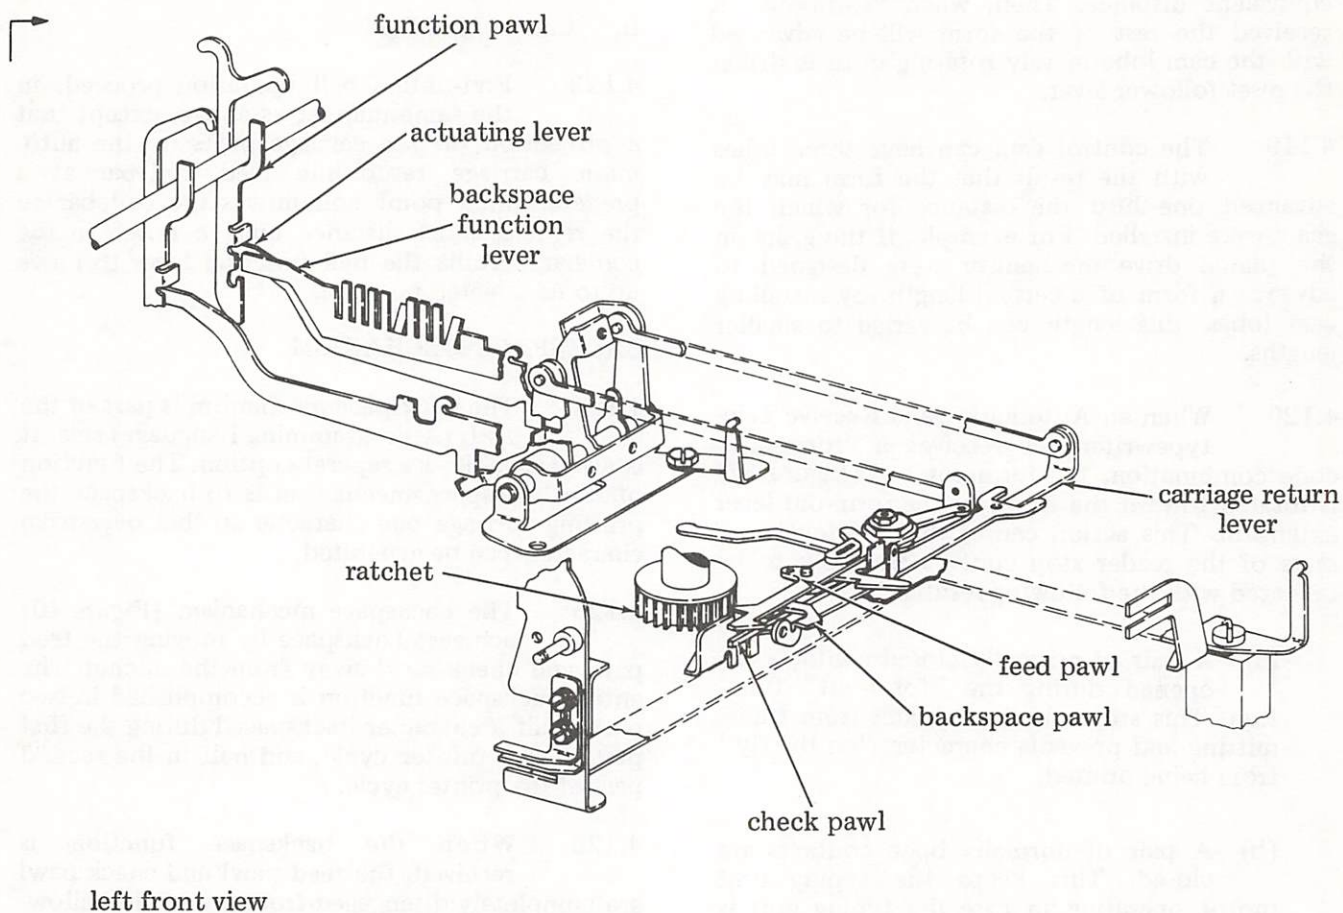

Figure 40 - Backspace Mechanism
4.125 The backspace mechanism (Figure 40) achieves backspace by moving the feed pawl and check pawl away from the ratchet. The entire backspace function is accomplished in two parts; half a character backspaced during the first part of the printer cycle, and half in the second part of the printer cycle.